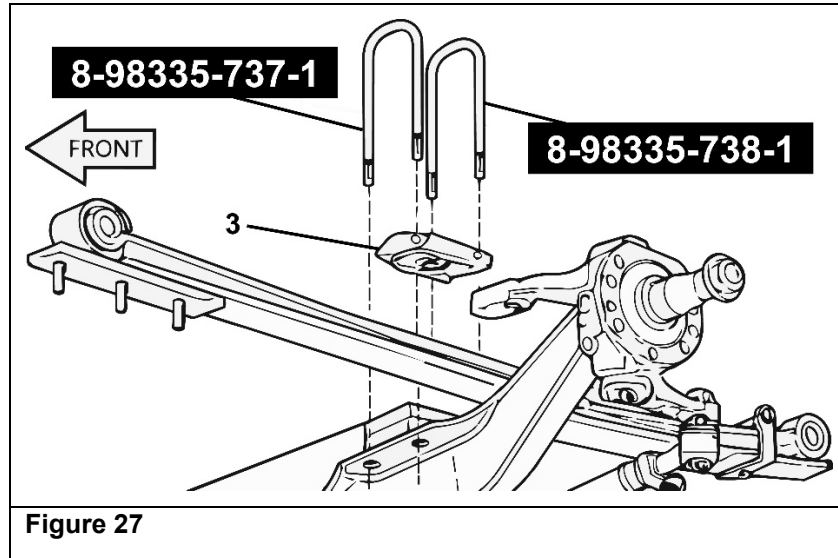

Figure 27
34. Install two *new* U-bolts 8-98335-737-1 (front) and 8-98335-738-1 (rear) with the upper spring spacer (3). (See Figure 27.)